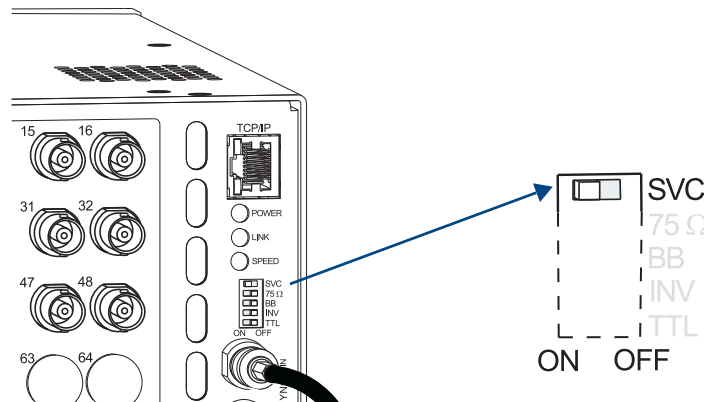

FIG. 41 Service switch in Service mode
If any of the client-defined user names and passwords are lost, the Service switch below the TCP/IP (RJ-45) connector can be used to reset them to the default values (all values including those for the IP Address and Subnet Mask are reset in the process). When the switch is flipped to the left, it is set for normal functioning. As long as security is turned on (the default setting), a password is required to access the APWeb server. When the Service switch is flipped to the right (FIG. 41), it is set for Service mode and the APWeb server is disabled.
1. Flip the Service switch to the left to place it in Service mode (FIG. 41).